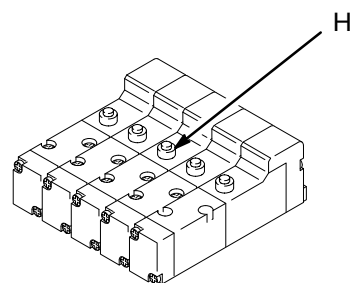

Fig. 9
6. Press the manual override button (H) on the solvent solenoid valve, which is inside the Precision-Mix solenoid enclosure. Refer to Fig. 9.
3. Trigger the spray gun, and press the manual override button (H) on the solvent solenoid valve, which is inside the PrecisionMix solenoid enclosure. Refer to Fig. 9, page 19.